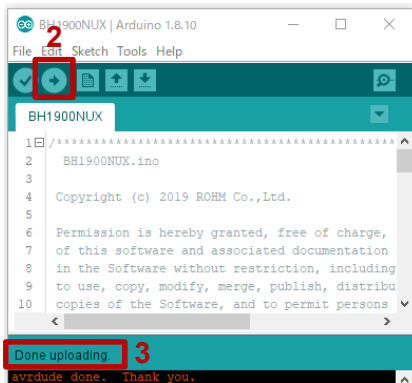

Figure 4. Uploading
2. Write the program by pressing right arrow button for upload (Figure 4)
3. Wait for the message "Done uploading." (Figure 4)